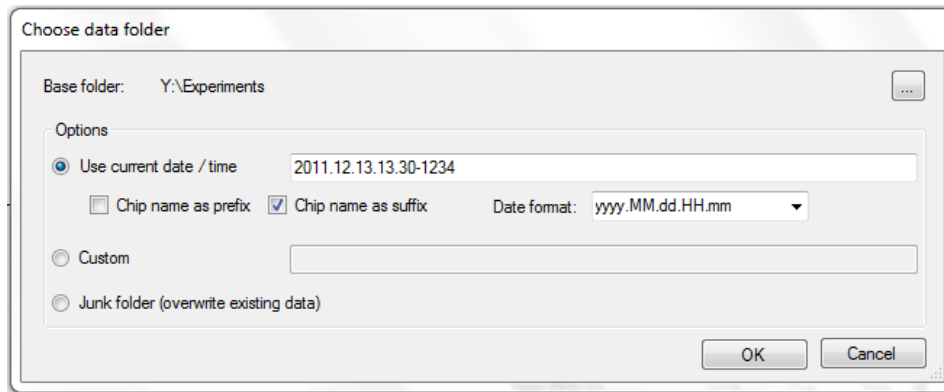

Figure 53. Choose data folder window.
- In the “Choose data folder” dialog box (Figure 53) that appears, select a destination folder and file name options for your run data, and click [OK].